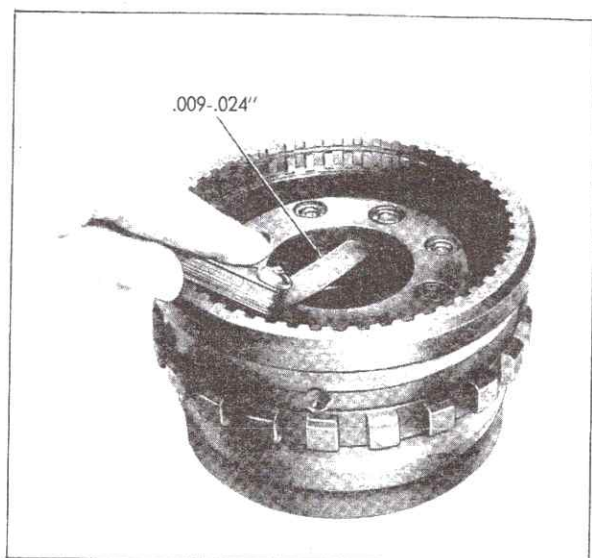

Fig. 7-80 Checking Output Carrier Pinion End Play
3. Check pinion end play. Pinion end play should be .009 inch - .024 inch, Fig. 7-80.